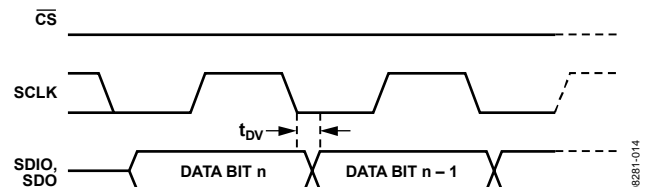

Figure 21. Timing Diagram for Serial Port Register Read
3. 8x interpolation: In this case, all three filters are used. Figure 21 shows the frequency response for 8x interpolation. The usable bandwidth is  $0.1 \times F_{dac}$  or  $0.8 \times F_{data}$ .